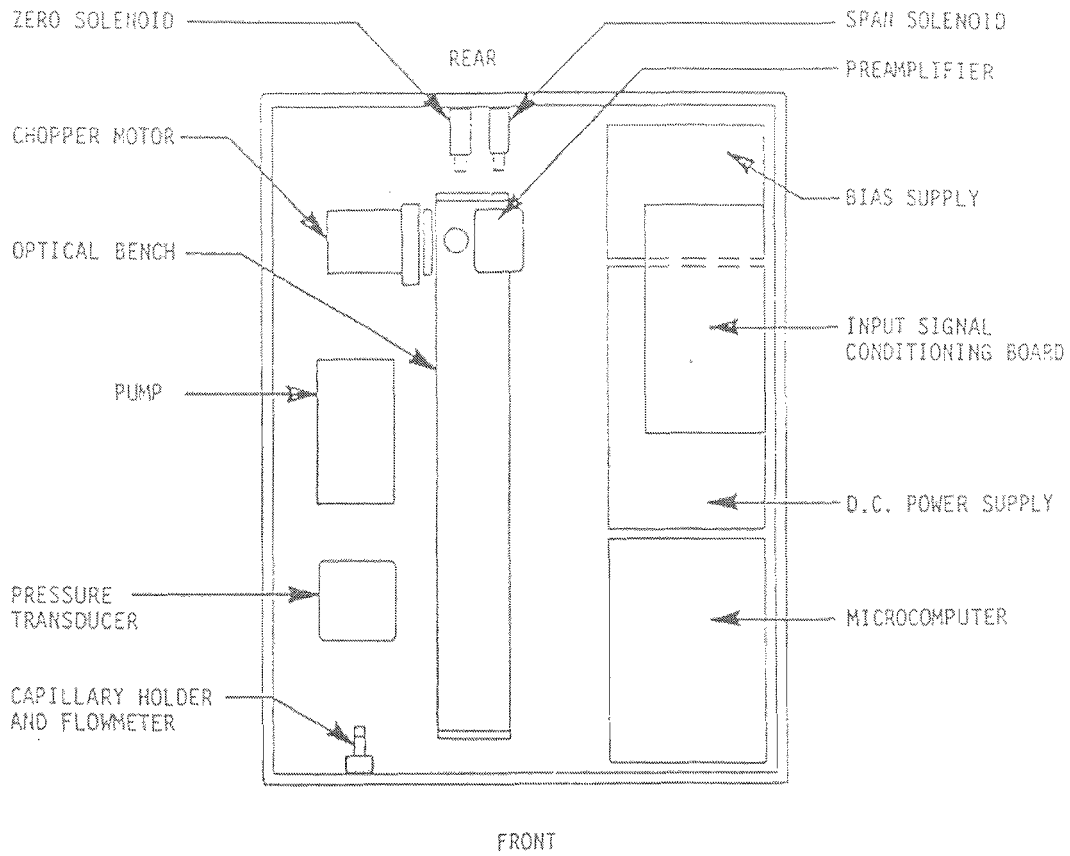

Figure 1 Model 48S Layout
- d. **Detector, Preamplifier, and Bias Supply** - The detector used on the Model 48S is a solid-state device with an integral cooler. It is mounted directly onto the optical bench. The output of the detector is fed into a preamplifier (Figure 1) prior to its transmission to the input signal conditioning board. The bias voltage necessary to operate the detector is generated by a separate bias voltage power supply.